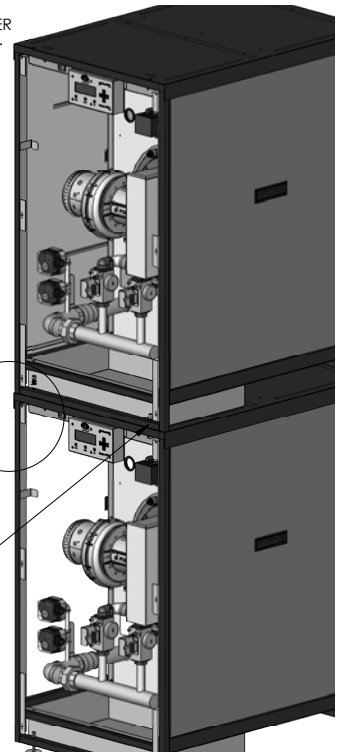

Figure 2.1: Stacking and Securing Boilers
Identical PFC-625 and PFC-750 boilers can be stacked to save floor space on the installation. Figure 2.1 shows how the upper boiler is to be attached to the lower boiler.
4. Insert washers and bolts (not provided - See Table 2.1) through the holes provided in the frame of the lower boiler and holes in the base of the upper boiler. Figure 2.1 shows this assembly. Tighten the bolts securely.